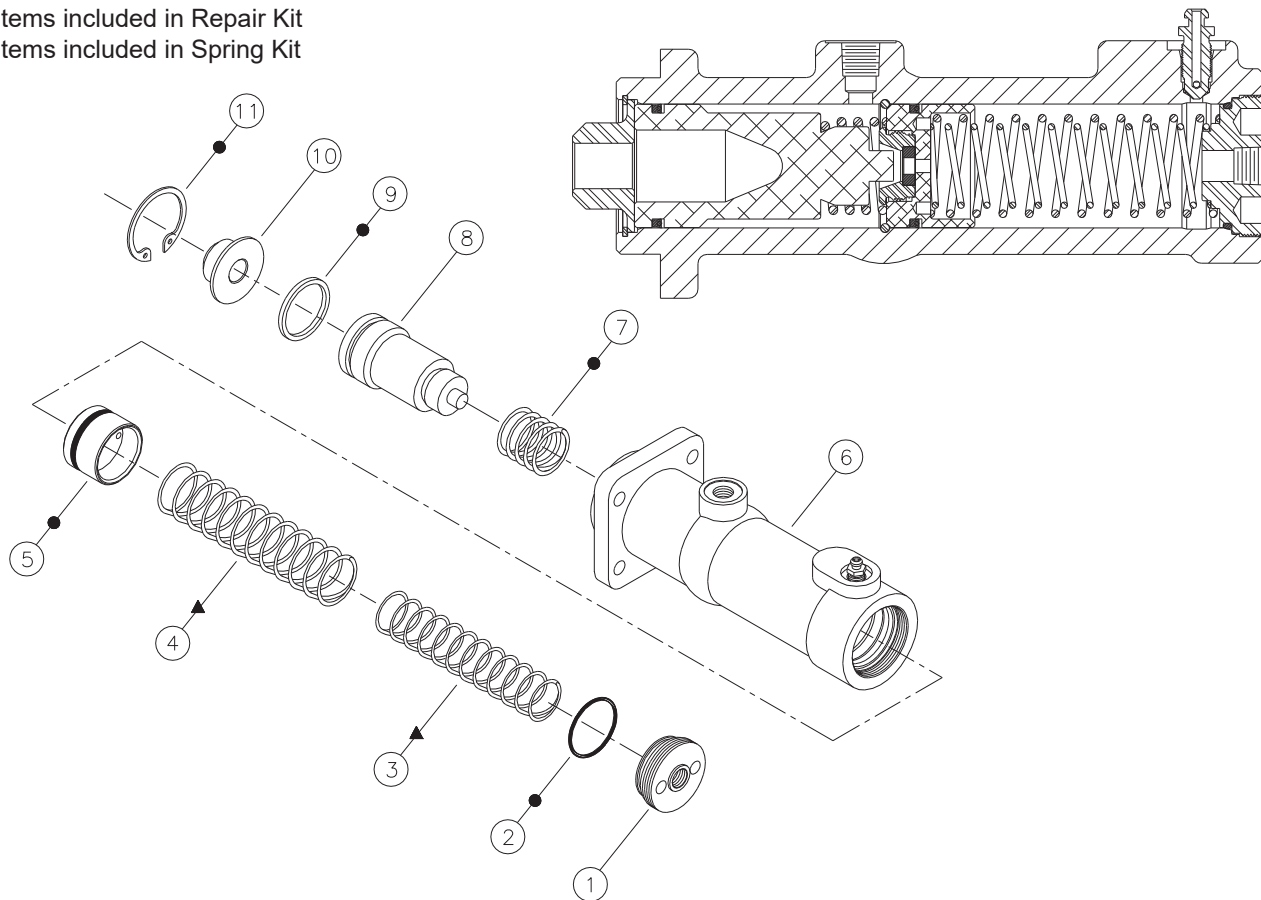

FIGURE 3
2. Completely lubricate inside diameter of guide (10) (Figure 3) and air chamber push rod with moly impregnated grease.
(Refer to Figure 3)